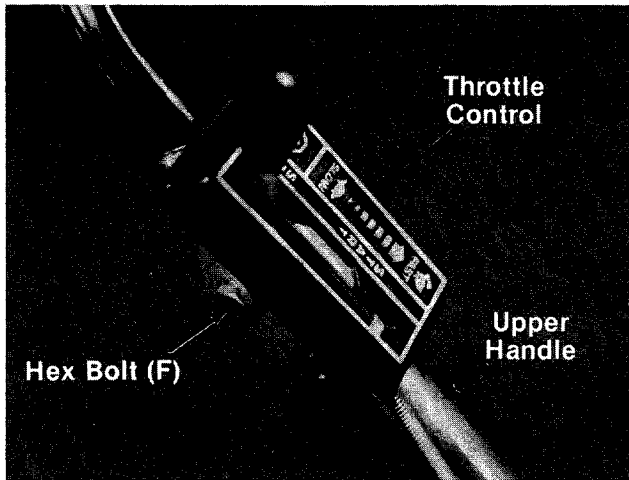

FIGURE 5.
5. Place the throttle control in position on right side of upper handle. Secure with hex bolt (F) and lock nut (G). See figure 5.